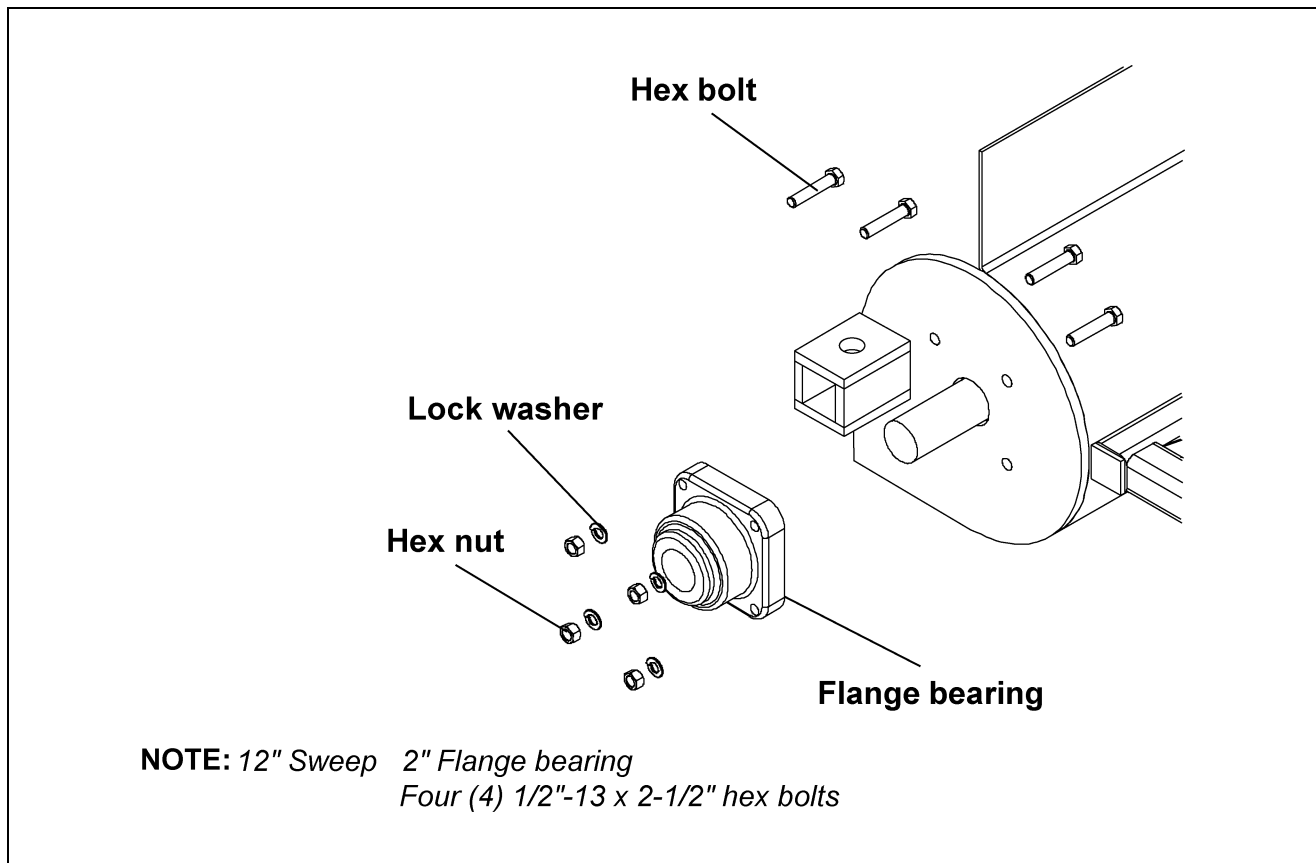

Figure 5F
- A. Slide the flange bearing onto the end stub and bolt it to the end plate using hex bolts, lock washers and hex nuts as shown in Figure 5F.